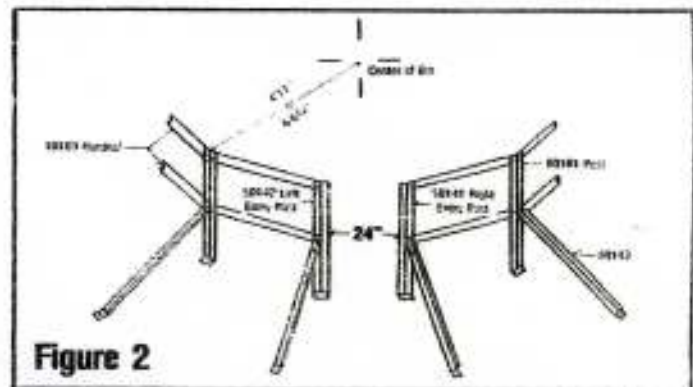

Figure 2
Refer to plan view of bin roof in Figure 2.
- Step 4: Assemble one end of a lower handrail 10189 and one end of a brace 80143 to one of the handrail post assemblies with a 5/16" x 3/4" bolt as shown in Figure 2. **Note: When roof stairs are used, omit brace on entry post.**